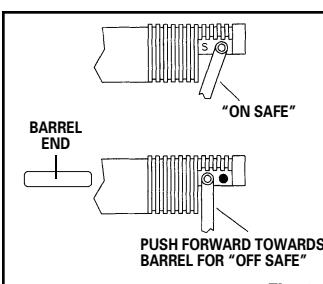

Fig. 2
- Locate the safety on top of the receiver (Fig. 2).